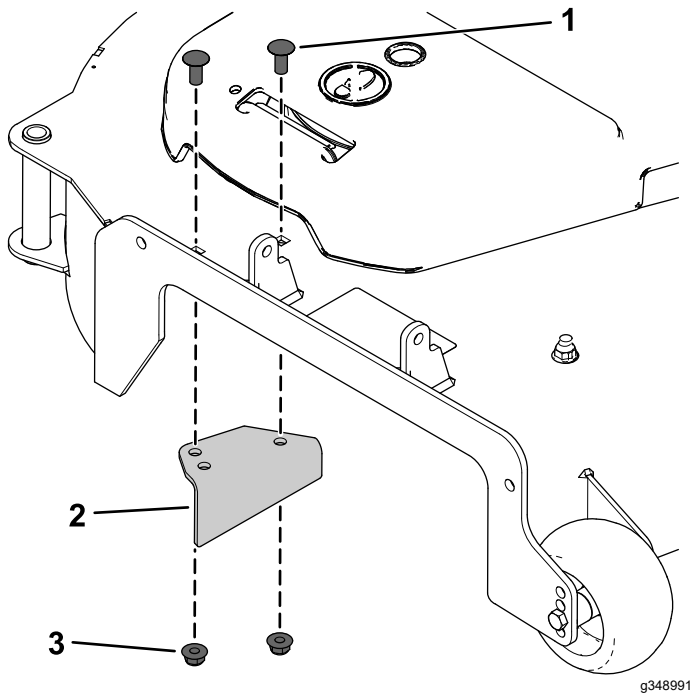

Figure 6
4. Install the new discharge baffle using 2 carriage bolts (3/8 x 7/8 inch) and 2 locknuts (3/8 inch) as shown in Figure 6.